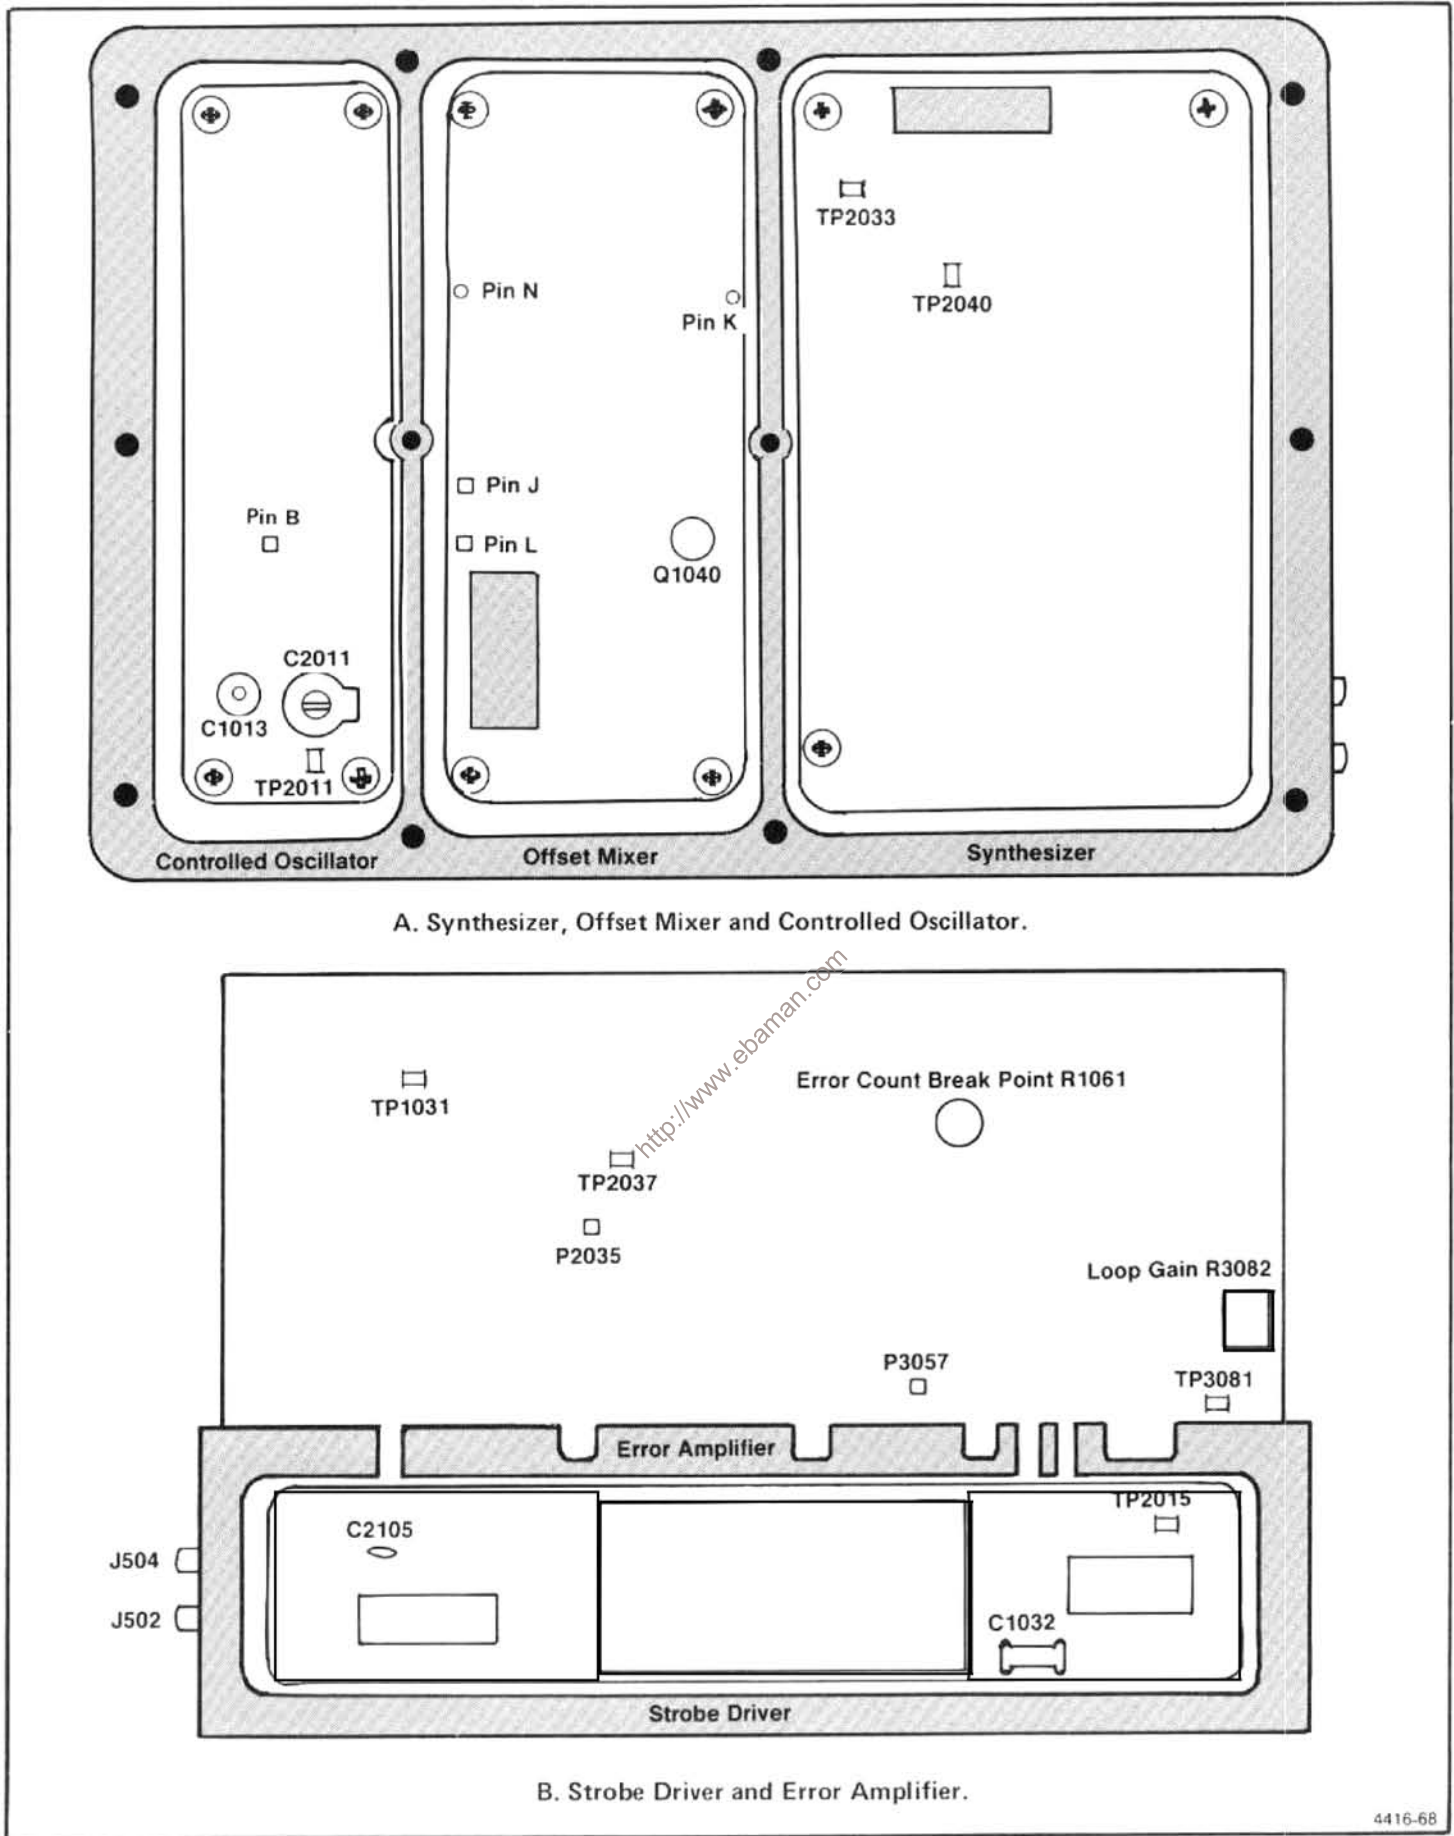

Figure 5-34. Adjustments and test points in the Phase Lock assembly.
(1) Connect the Direct Input of the Frequency Counter to pin N (Figure 5-34) and adjust the counter controls for a count. Note the frequency.
(2) Connect the counter to pin K and note the frequency.
(3) Connect the counter to the collector of Q1040 and note the frequency. Frequency should equal the difference between pins N and K (e.g., 25.080 - 25.000 = 80 kHz). Disconnect the counter probe from the collector of Q1040.
(4) Connect the probe of a test oscilloscope to the collector of Q1040 and check for a 50% duty cycle of the approximately 80 kHz signal and an amplitude that is approximately 5 V peak-to-peak.